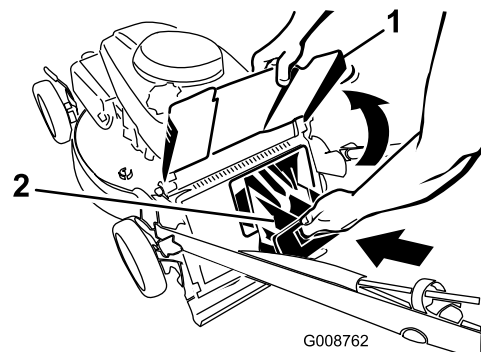

Figure 25
4. Insert the mulch plug into the opening at the rear of the mower housing until it snaps into place (Figure 25).